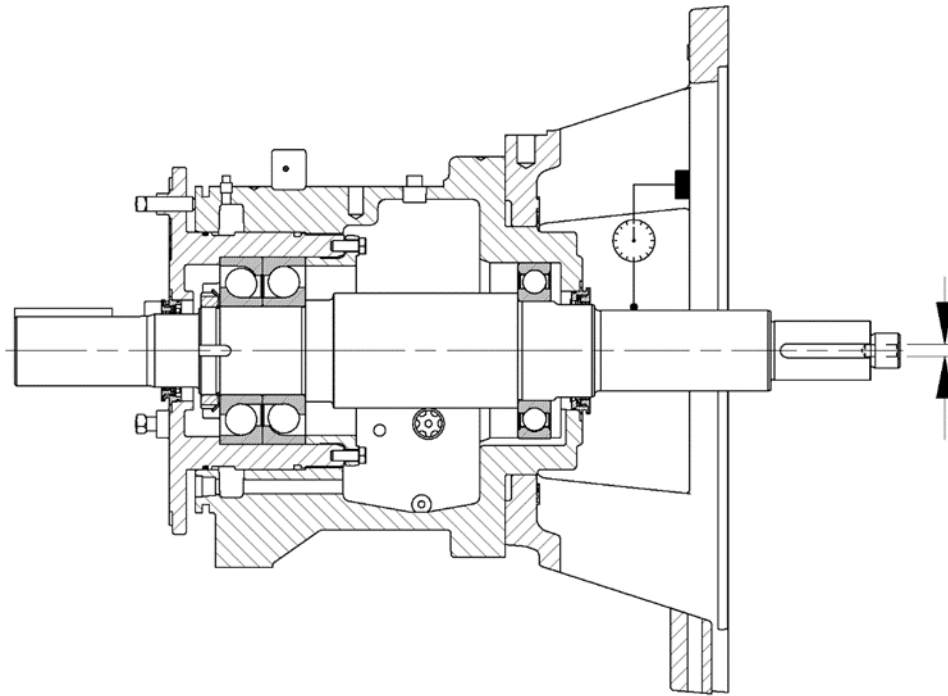

Figure 38: Radial Deflection
Radial movement of the shaft can be caused by a loose fit between the shaft and the bearing and/or the bearing and the housing. Tighten bearing the (3) three bearing carrier set screws [6814] to the torque value shown in Table 21: *Torque Requirements*. Movement is measured by attempting to displace the shaft vertically by applying an upward force of approximately 9.1 kg (20 lb) to the impeller end of the shaft. While applying this force, indicator movement is observed, as shown in Figure 38. Check movement at a point as near as possible to the location of the seal faces. A movement of more than 0.05 mm (0.002 in.) is not acceptable.